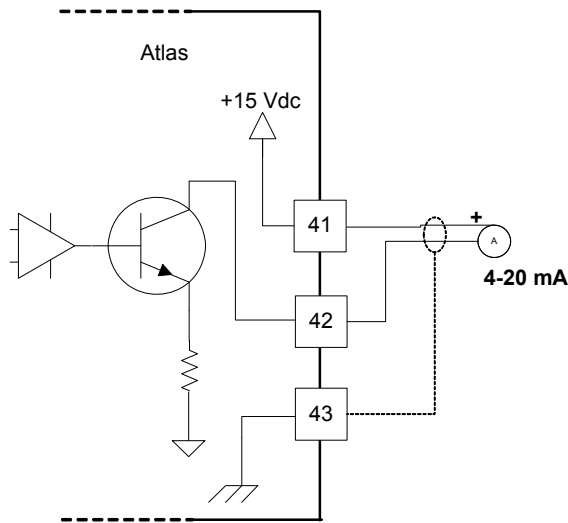

Figure 5-8. Wiring Example—Analog Output Interface to the SmartCore Board
- Refer to Figure 5-8 for analog output wiring.